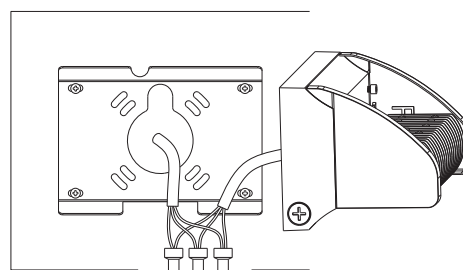

Figure 1-4
- 4.Make wiring connection and go through isolation treatment.(Figure 1-4)